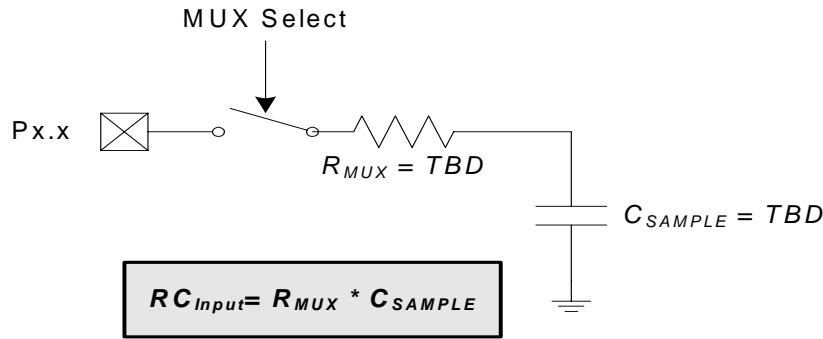

Figure 9.5. ADC0 Equivalent Input Circuit
Figure 9.5 shows the equivalent ADC0 input circuit. The required ADC0 settling time for a given settling accuracy (SA) may be approximated by Equation 9.1. When measuring the Temperature Sensor output or V_{DD} with respect to GND, R_{TOTAL} reduces to R_{MUX} . See Table 8.9 for ADC0 minimum settling time requirements as well as the mux impedance and sampling capacitor values.